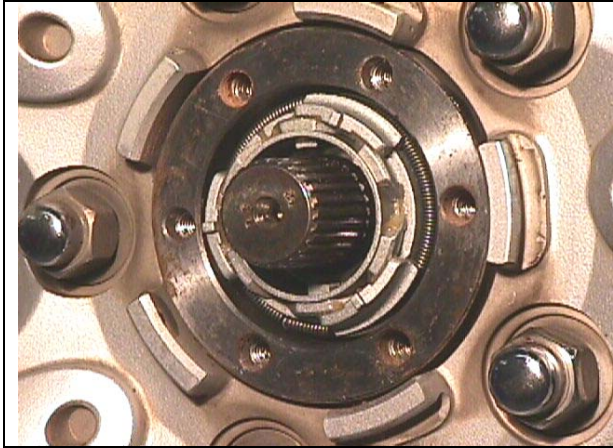

Figure 5
5. Remove the camming assembly, and spindle nut as shown in Figures 5, and 6.